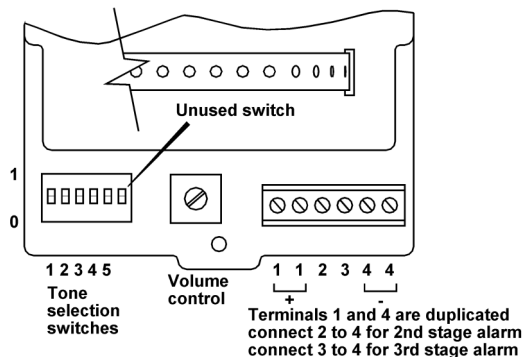

Fig 3 Location of field terminals and controls.
- Fit a 20mm cable gland or conduit entry into the untapped hole in the enclosure and connect the field wiring to the appropriate sounder terminals as shown in Fig 3. The power supply terminals 1 and 4 are duplicated so that sounders may be connected in parallel, or an end of line monitoring resistor may be fitted.
- Select the required output tone by positioning the five switches as shown in Table 1 and Fig 3. The sixth switch on the right hand side of the switch assembly is not used.